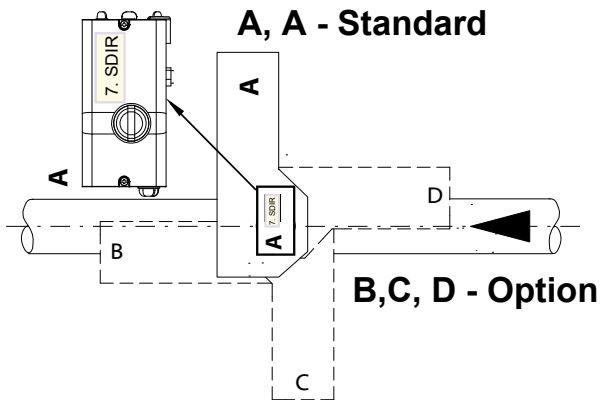

Fig.4-3a Mounting positions of the Actuator
Installation position A, A (→ Fig. 4-3a) - perpendicular to the pipeline is the standard mounting for both Actuators and Positioners. Mounting positions B, C, D for Actuator (→ Fig. 4-3a) and the Positioner (→ Fig. 4-3ab) can be selected depending on the installation option. The Valve and Actuators mounting position relative the horizontal line. A mounting position with the Valve shaft pointing upwards (vertical) is often considered to be standard. If the media contains sticky or other difficult impurities, that tend to collect at the bottom of the pipe, it is advised to mount the valve with an angle of vertical. In this way it is avoided that the impurities collect and eventually clog and glue the bottom bearing of the valve shaft.
Fig.4-3ab Mounting positions of the Positioner
5. Place the actuator with the bracket (→ Fig.4-2/5) in the required position (A, B, C or D) (→ Fig.4-3a). on the shaft of the valve and fix the unit with the aid of the bolts. (→ Fig.4-2/6).